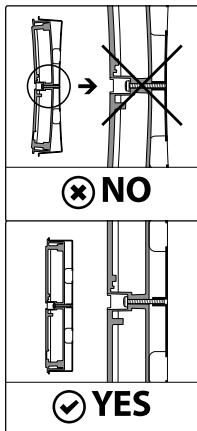

Fig. 4
4. Once the intercom is fixed to the flush mounting box, place the front plate against the intercom by inserting the hooks in the corresponding openings and hook the plate by pushing it down as shown in **Fig. 4**.